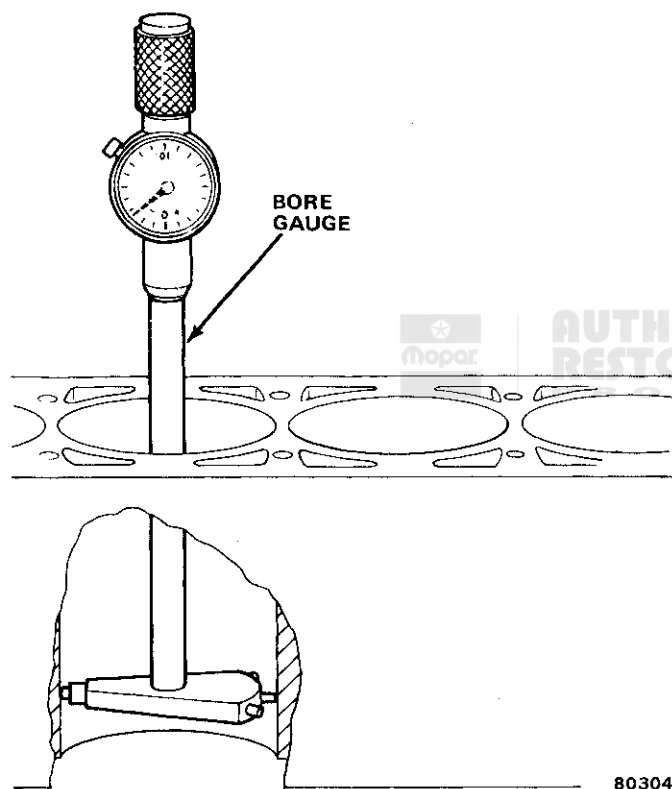

Fig. 1B-57 Measuring Cylinder Bore with Bore Gauge
Use a bore gauge to measure the cylinder bore (fig. 1B-57). If a bore gauge is not available, use an inside micrometer.
(1) Install upper main bearing inserts in cylinder block.
(2) Install crankshaft.
(3) Install main bearing caps and inserts. Apply oil to insert before installing. Tighten screws to 80 foot-pounds torque in steps of 40, 60 and 80 foot-pounds torque (54, 81, 108 N•m). Plastigage all bearings if replacement bearings or crankshaft have been installed.
(4) Clean cylinder bores thoroughly. Apply light film of clean engine oil to bores with clean, lint-free cloth.
(5) Install piston rings on piston. Refer to Piston Rings for sequence.
(6) Lubricate piston and rings with clean engine oil.
(7) Use Piston Ring Compressor Tool J-5601 to install connecting rod and piston assemblies through top of cylinder bores (fig. 1B-34).
(8) Apply oil to inserts. Install connecting rod bearing caps and inserts in same order as removed. Tighten retaining nuts to 33 foot-pounds (45 N•m) torque.
(9) Install oil pump using replacement pick-up tube and screen.
(10) Install engine oil pan using replacement gaskets and seals. Tighten drain plug.
(11) Install camshaft and timing chain.
(12) Install timing case cover.
(13) Install vibration damper and drive pulley.
(14) Install valve tappets.
(15) Install gasket and cylinder head.